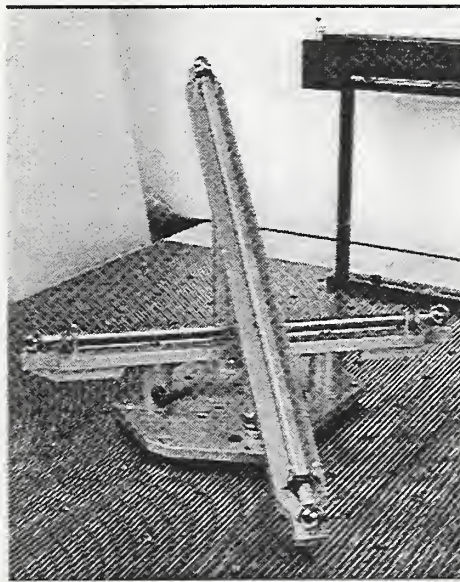

Figure 21. Manual ITA with ball bar support structure attached
Step 2. Attach the ball bar support structure (refer to Figure 21):